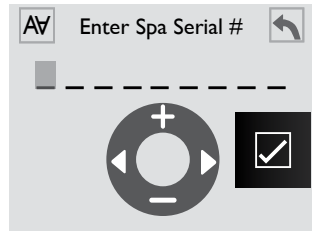

Figure 10.2c
2. Input the 9-digit serial number, Figure 10.2c. If your serial number begins with a letter, scroll through the numbers until the letter is displayed.